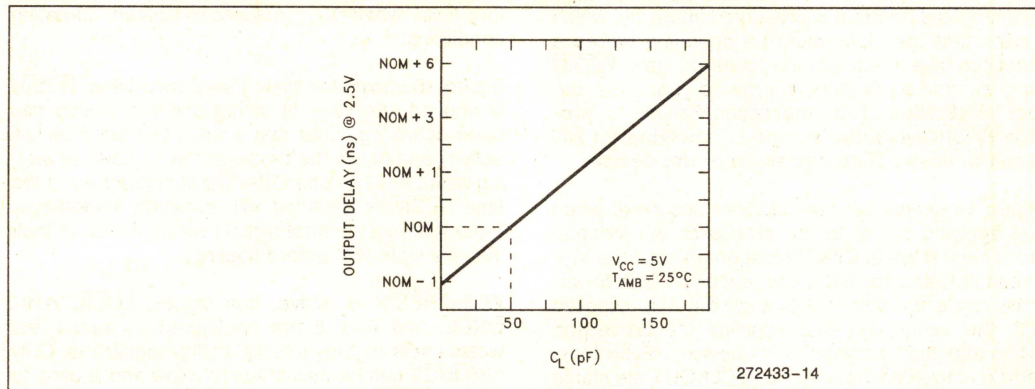

Figure 13
4. Specified for a 50 pF load, see Figure 13 for capacitive derating information.